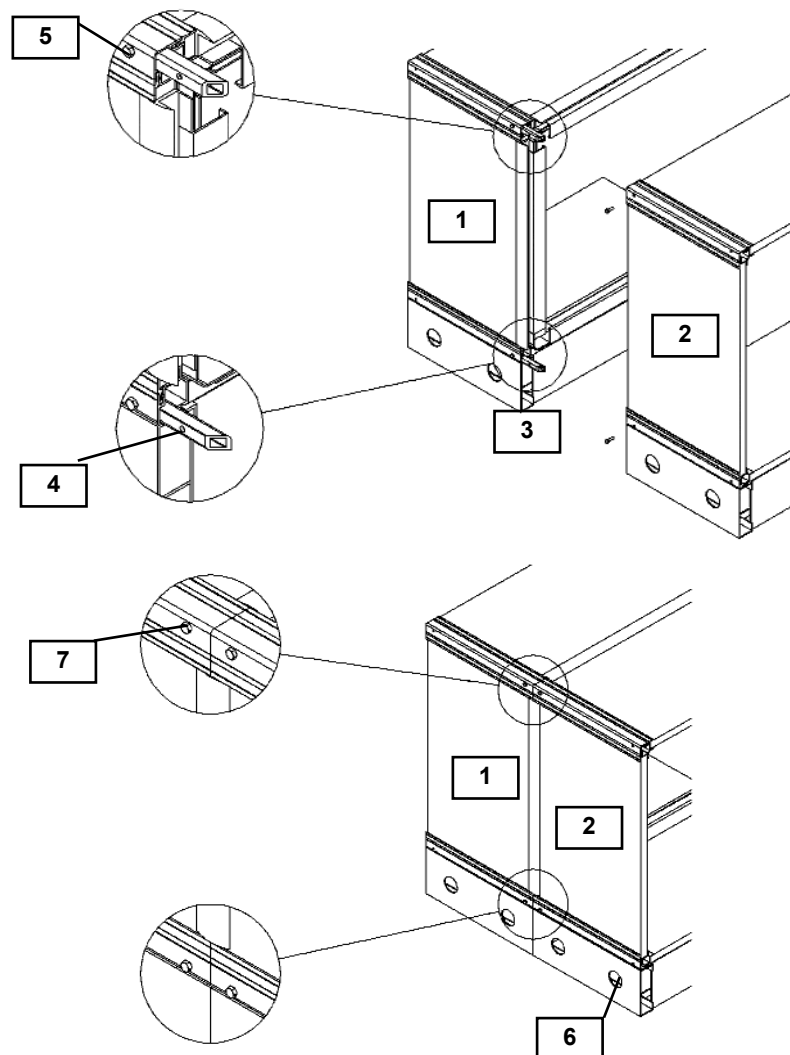

Figure 9
3. Remove 4 M6 fixing bolts (A) from the protruding portion of the 4 framework joining bars (see Figure 9), then loosen the remaining 4 bolts that are located on the fixed side of the break point joining bars.